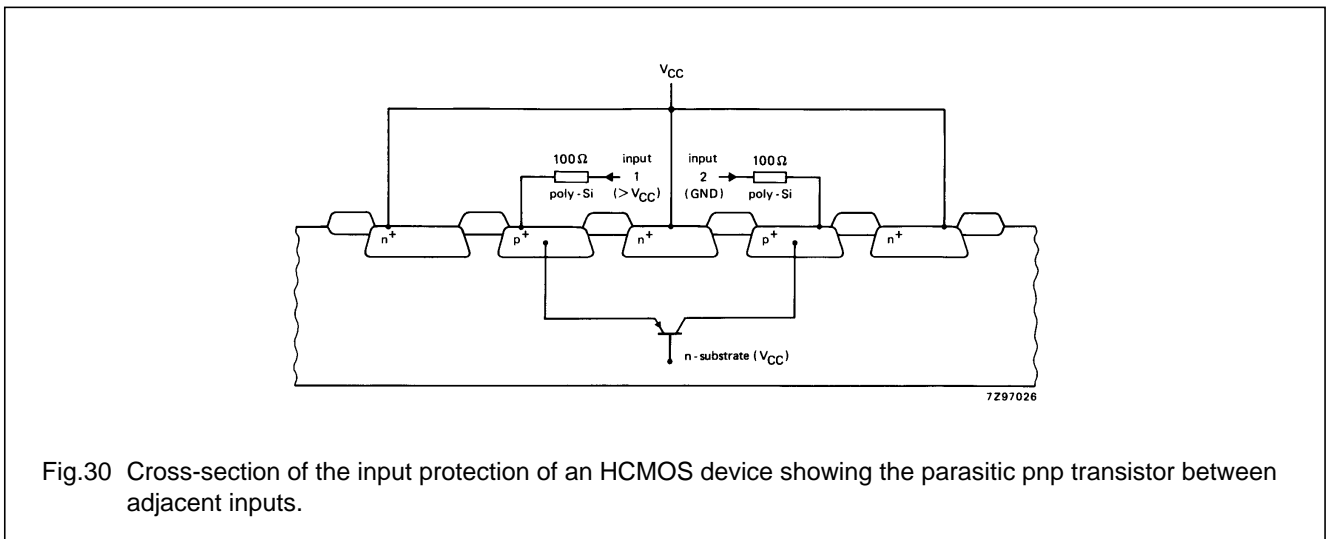
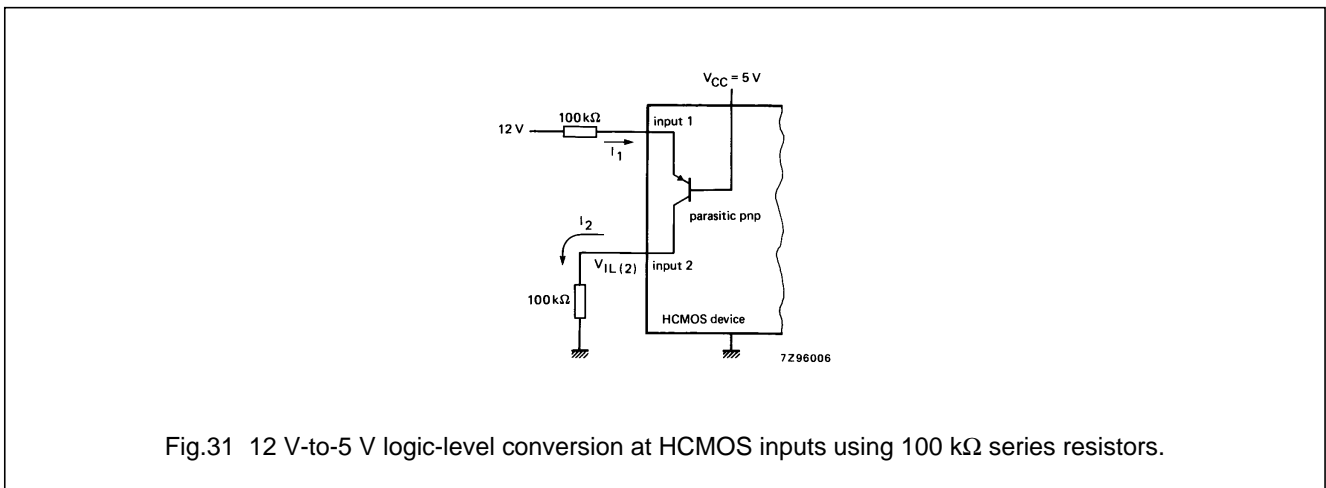

Fig.30 Cross-section of the input protection of an HCMOS device showing the parasitic pnp transistor between adjacent inputs.
Fig.31 12 V-to-5 V logic-level conversion at HCMOS inputs using $100\ \text{k}\Omega$ series resistors.
Parasitic bipolar pnp transistors can be present between adjacent inputs, e.g. between an input protection diode to V_{CC} and the same diode at the adjacent input, as shown in Fig.30. If the recommended operating input voltage is exceeded, perhaps by ringing of more than 0.7 V, current into the terminal (I_1) can cause a current I_2 in the parasitic transistor and in the adjacent input (Fig.31). Because I_2 in the adjacent input has to be drained by the source driving that input, the source resistance (R) must be low. If R is not low enough, the parasitic current can lift the source voltage and cause unwanted switching.
A low α permits proper logic operation in the presence of transients and also allows HIGH-to-LOW voltage translation simply by adding series input resistors. For example, in Fig.31, 12 V system logic is converted to 5 V system logic by adding a 100 k Ω resistor in each input. Since the logic signals are delayed by 1-2 μ s, this arrangement is suitable for rather slow 12 V control logic such as that in automotive applications. When the input diodes are used as clamps for logic level translation, the total input current should be limited to 20 mA.